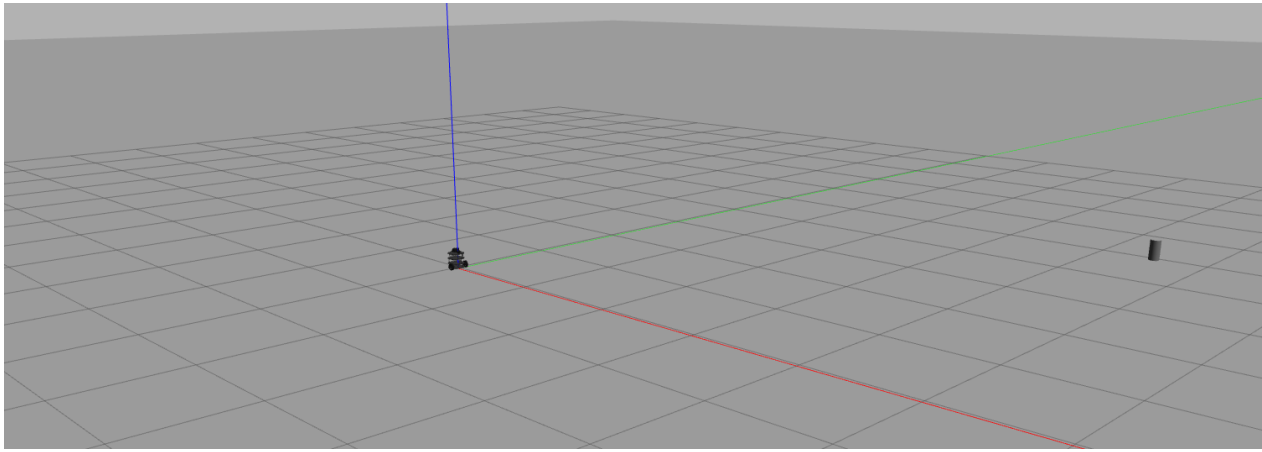

Figure 3: The world with single pillar at (4.5,5) and Turtlebot3 at (0,0)
- Take a screenshot showing the pillar in the correct location (according to your matriculation number) and the Turtlebot3 in the initial position (refer to Figure 3). You will need it for your report.**